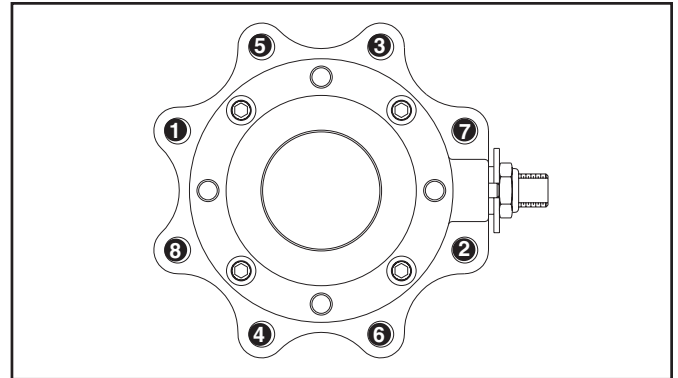

Figure 4 - Mounting Bolt Tightening Sequence
1.2.13 Tighten all eight (8) mounting bolts alternating diagonally as shown in Figure 4. Do not over tighten one side as it may tilt the valve and prevent a proper seal.